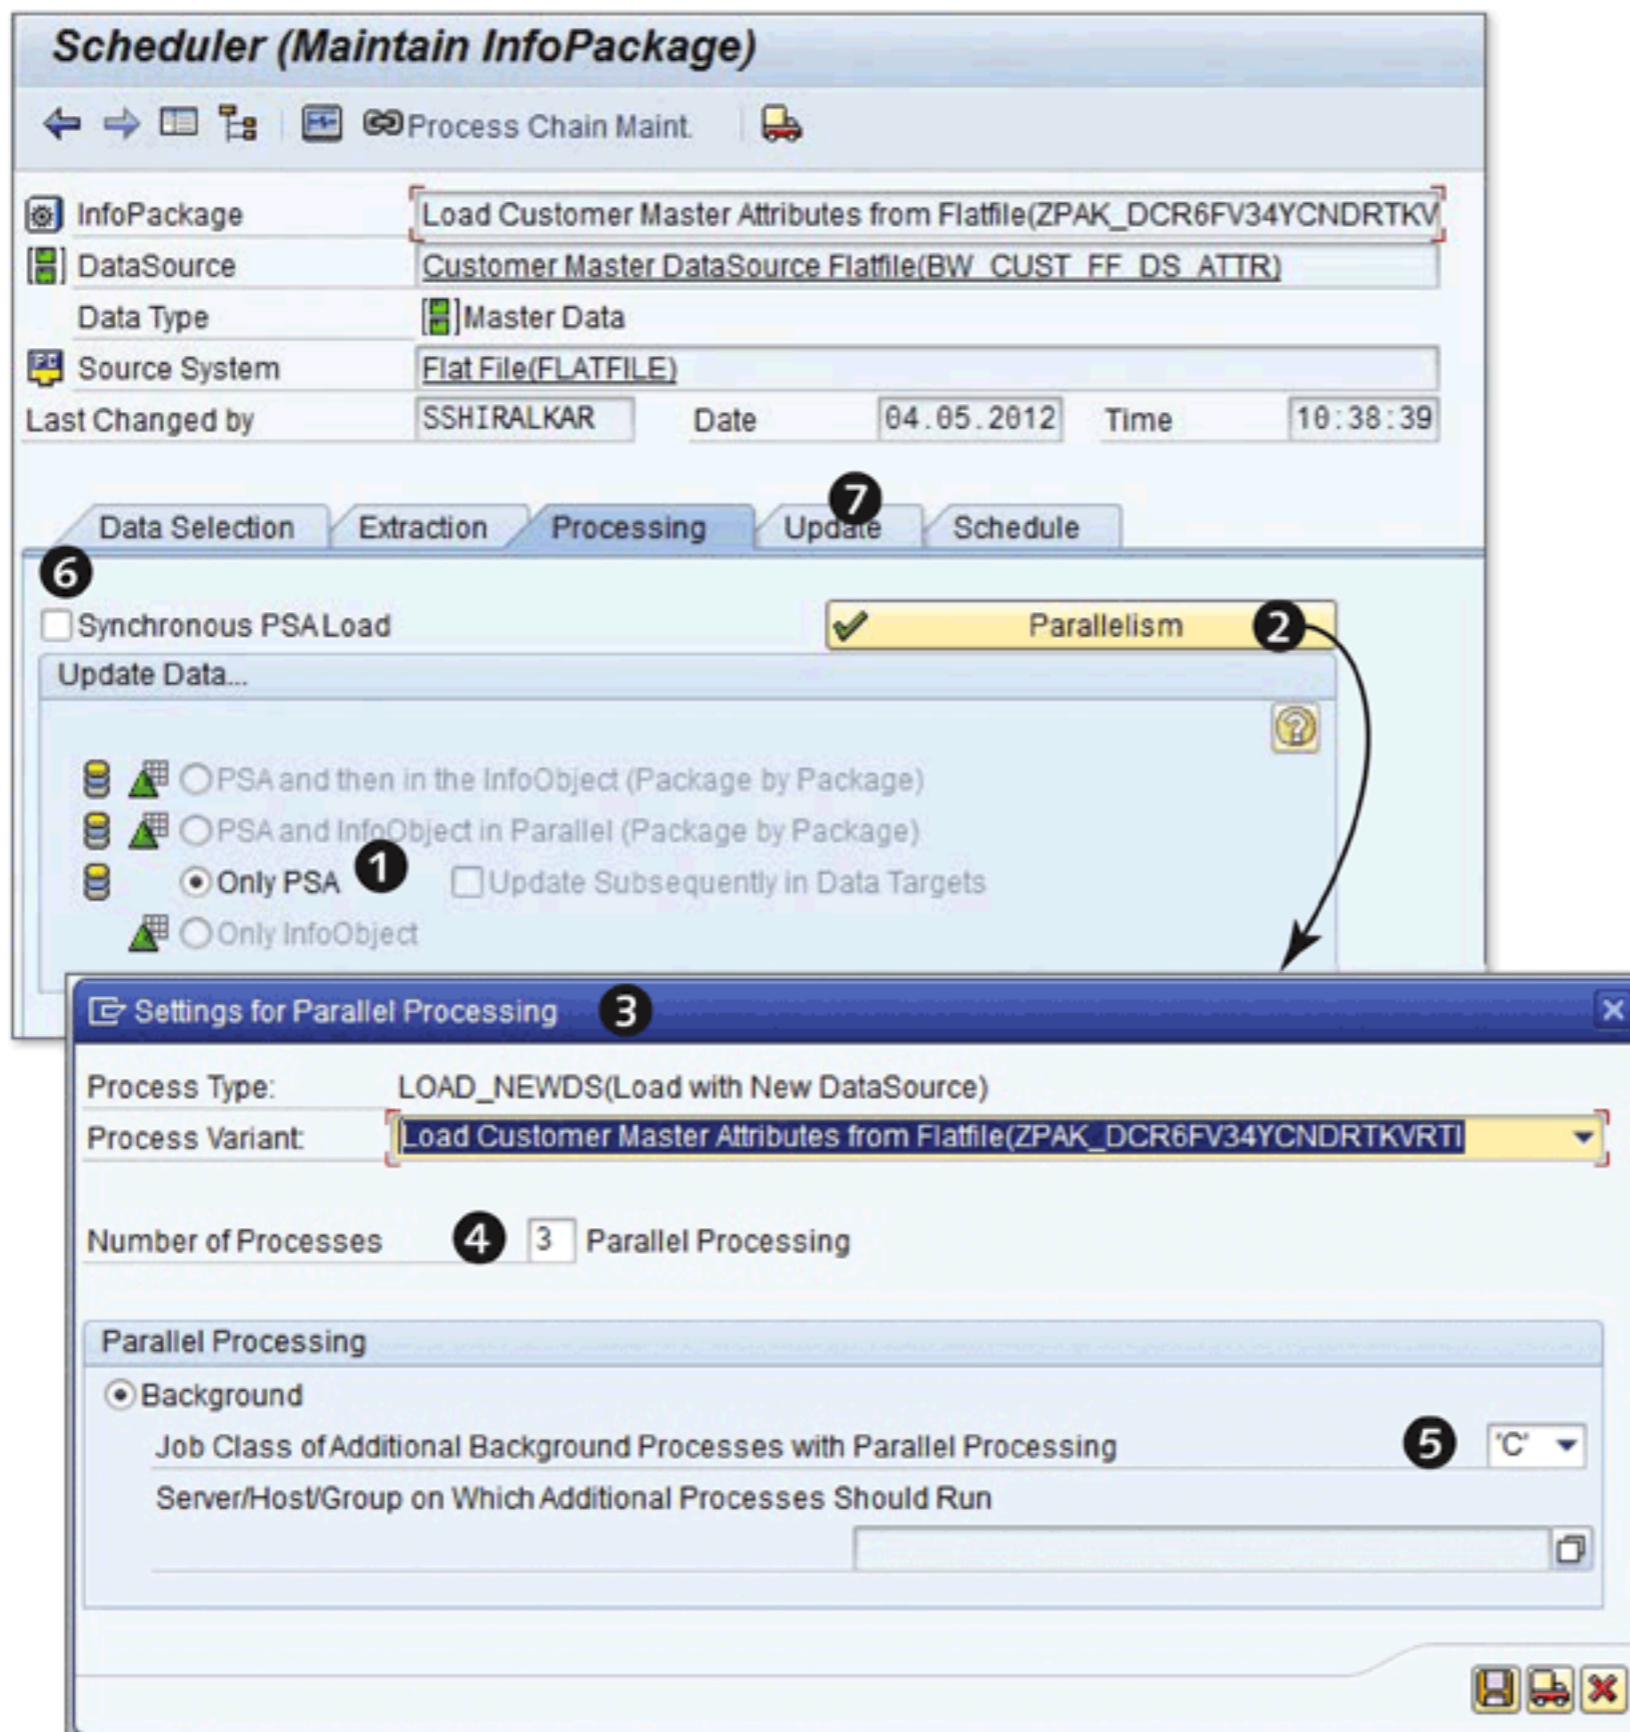

Figure 7.34 Creating an InfoPackage: Processing Tab
Now click on the PROCESSING tab, which allows you to determine how the extraction is processed by the SAP NetWeaver BW system and where it's stored. As shown in ❶ of Figure 7.34, the data extracted is stored in a PSA. If required, data in a PSA can be manually modified before it's loaded into any data target.